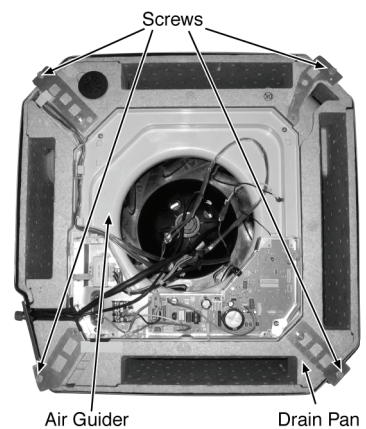

Fig. 6
6. Remove the Air Guider and Drain Pan complete by removing the screws (Fig. 6).